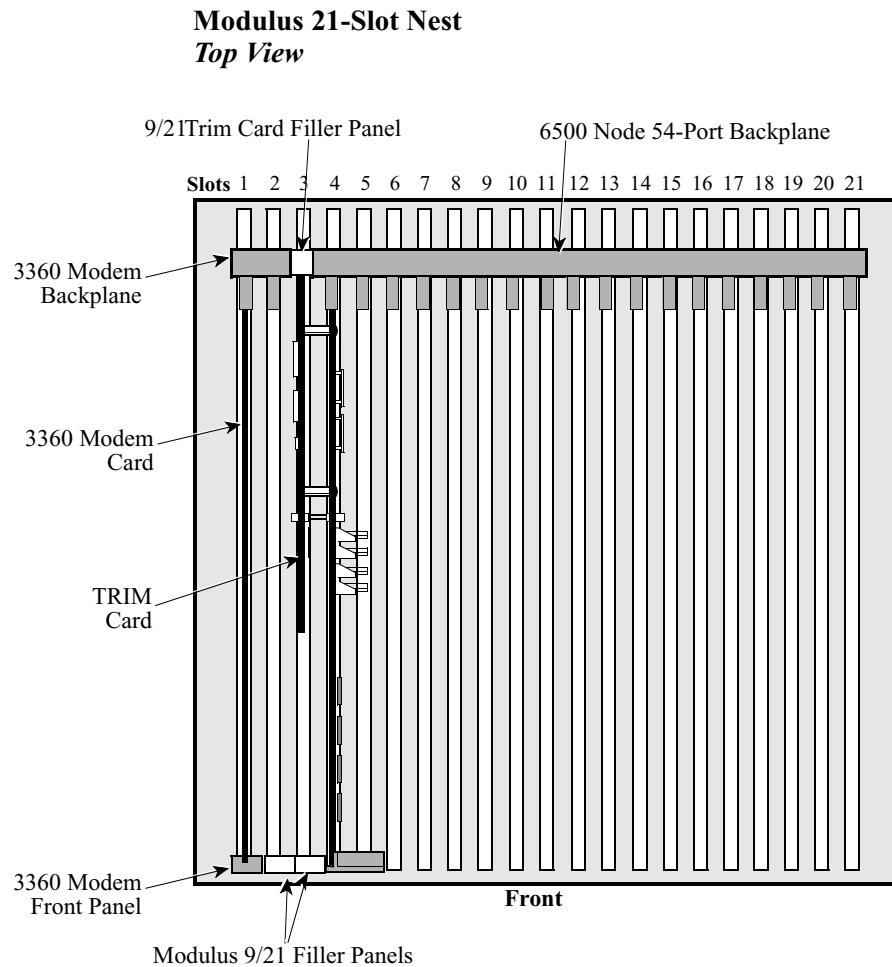

Figure 2-12. TRIM Card Between Two Backplanes In Modulus 21
- **To install a node with a TRIM card next to another product backplane,** leave one slot empty between backplanes. Modulus 9/21 product backplanes take one slot in addition to what their product cards take. For example, a 54-port backplane takes up 19 slots, although its nine cards take up 18 slots (two slots per card). The TRIM backplane fills the one slot between the two backplanes. The TRIM card itself fills the one slot gap and one slot from the adjacent backplane. Two standard Modulus 9/21 front filler panels cover the front of the TRIM card's slots in Modulus 9/21 enclosures (Figure 2-12). This works only if a one-slot card is installed to the left of the node.
Figure 2-12 shows A TRIM card between two backplanes in Modulus 21.